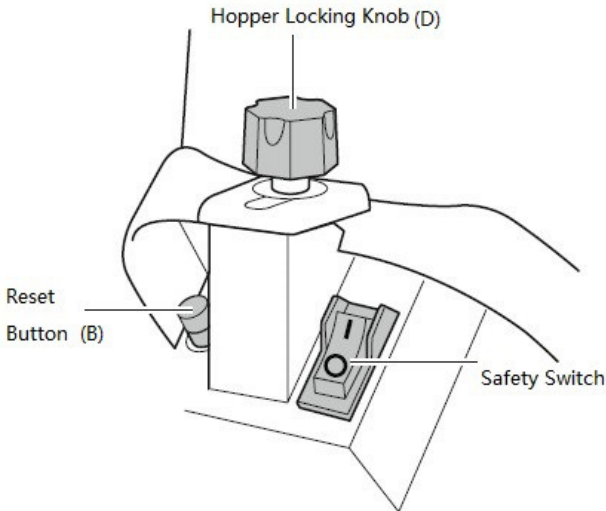
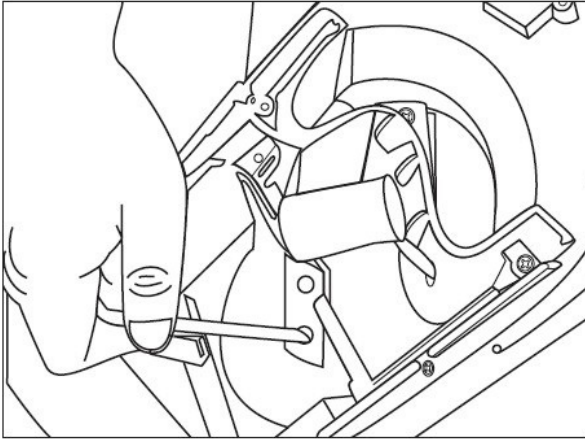

Fig.7
Fig.8
1. Cleaning garden shredder: (See Fig.7)
- a) Unscrew the hopper locking knob (D) counter clockwise and open the hopper.
- c) The garden shredder has two blades that are attached to a rotary plate with two screws, (See Fig. 8). Before any maintenance or cleaning is done on the blades, always turn the switch off and disconnect the plug from the outlet.
7. Cutting blade replacement. (Fig. 7 & 8)